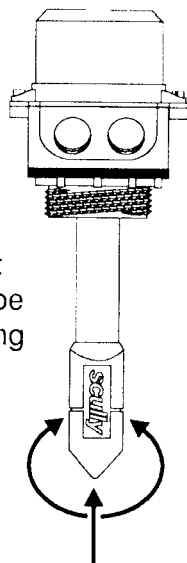

Figure 3.9 Adjusting The Optic Probe Position
2. Adjust the probe position so that the mid-point of the prism or the notch in the prism protector is at the desired shut-off level. Use an upward, twisting motion as shown in figure 3.9 to prevent the "O" ring from being dislodged. We recommend that the shut-off point be set at a point just above the maximum tank capacity. This point is generally indicated by the uppermost marker button. In all cases, the point must be below the vapor exit port with the prism facing away from it and the manhole cover.